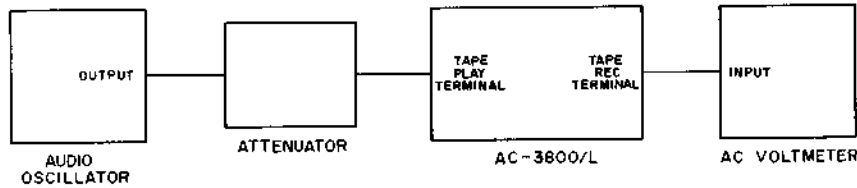

Fig. 31 Measuring Instrument Connection
1. Connect measuring instruments as shown in Fig. 31.